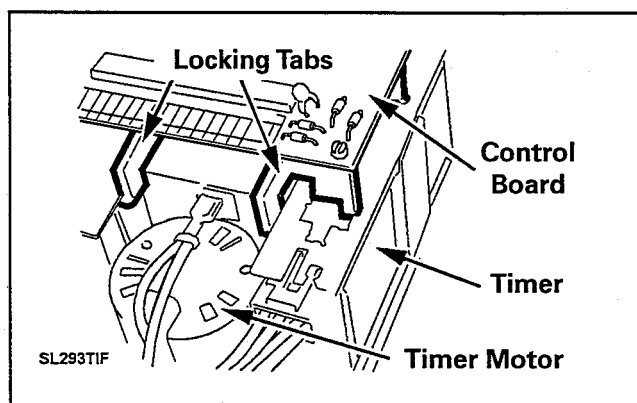

Figure 4-9
3. Squeeze the locking tabs together (*Figure 4-9*).